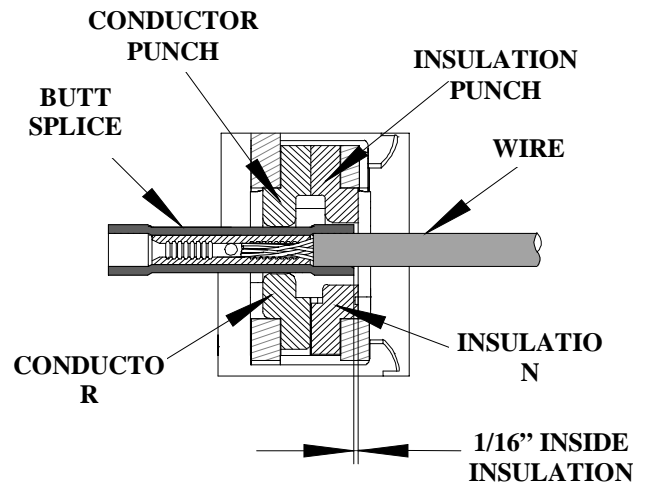

Figure 4
6. When crimping butt splices, or 3-way and 4-way terminals the locator must be removed. Splices must be visually aligned with the tooling 1/16" inside the insulation crimp (See Figure 4). The splice should be approximately centered inside the tooling nests (See Figure 4). Cycle the tool.